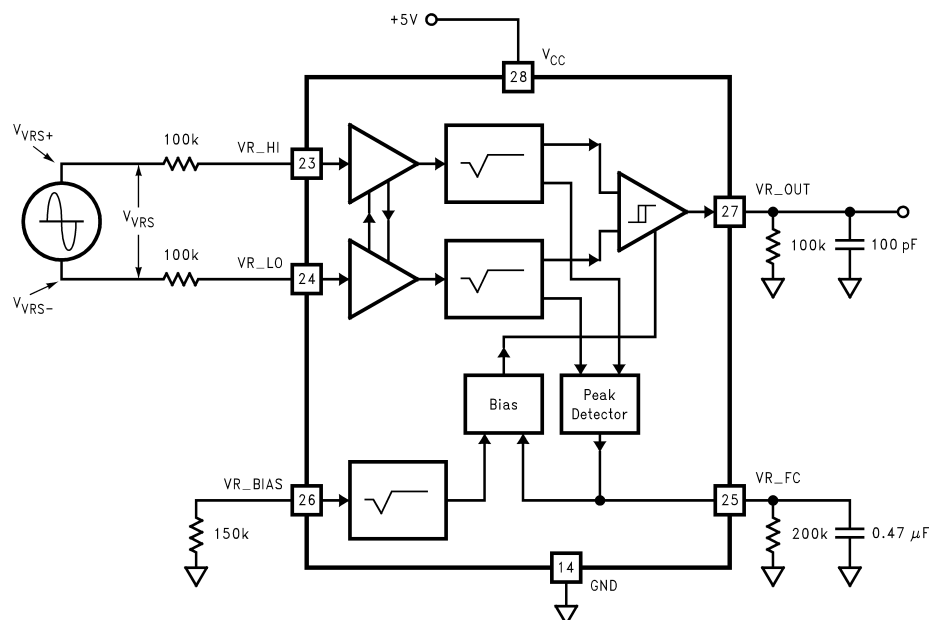
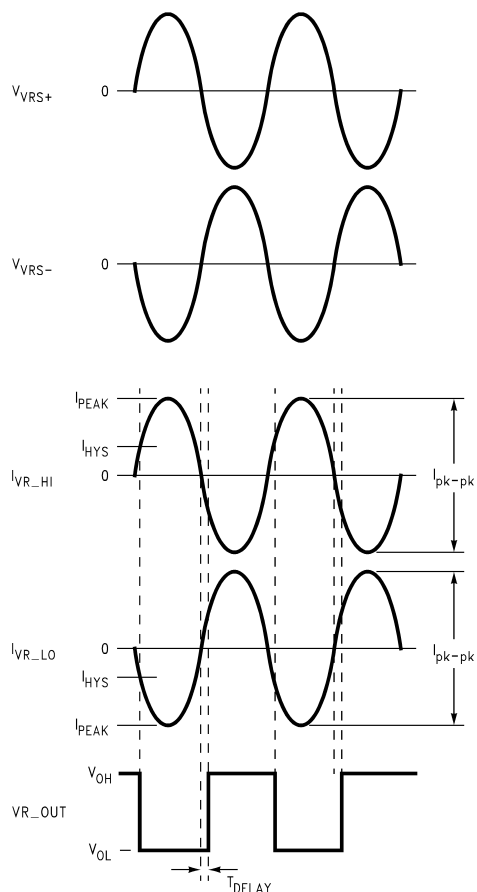

Figure 9. VR Interface Test Circuit
Figure 10. VR Interface Timing Diagram
- (1) Absolute Maximum Ratings indicate the limits beyond which damage may occur.
- (2) ESD Ratings is with Human Body Model: 100pF discharged through a 1500 Ω resistor.
- (3) Operating ratings indicate conditions for which the device is intended to be functional, but may not meet the guaranteed specific performance limits. For guaranteed specifications and conditions, see the Electrical Characteristics.
- (4) Tested per VR Sensor Interface test circuit. See Figure 9 and Figure 10.
- (5) Minimum Detect Current is not production tested at +85C. Specifications is guaranteed through device characterization and Test Limits at 25 $^{\circ}C$ and 125 $^{\circ}C$.
- (5) VR Sensor Interface Tdelay, measured from VR input sine wave zero-crossing to VR_OUT going high. See Figure 10.
- (6) Electronic Timing Interface Tsetup, minimum time between Vcc > 4.75V and RESET = 1.
- (7) Electronic Timing Interface Tsetup, minimum time between RESET = 1 and D0 = 1.
- (8) Electronic Timing Interface Tsetup, minimum time between D0 / D1 = valid and ENB = 1.